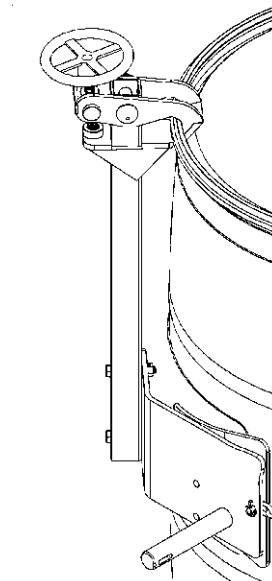

Figure 2.2
- The **Top Rim Clamp** (Part # 4560-P) grips the upper rim of your drum to prevent it from slipping through the drum holder (see figure 2.2). To handle a 55-gallon (210 liter) plastic drum with top rim, you **must** install either the Bracket Assembly or the Top Rim Clamp. You can use the Top Rim Clamp with a 55-gallon (210 liter) plastic, steel or fiber drum with suitable top rim.